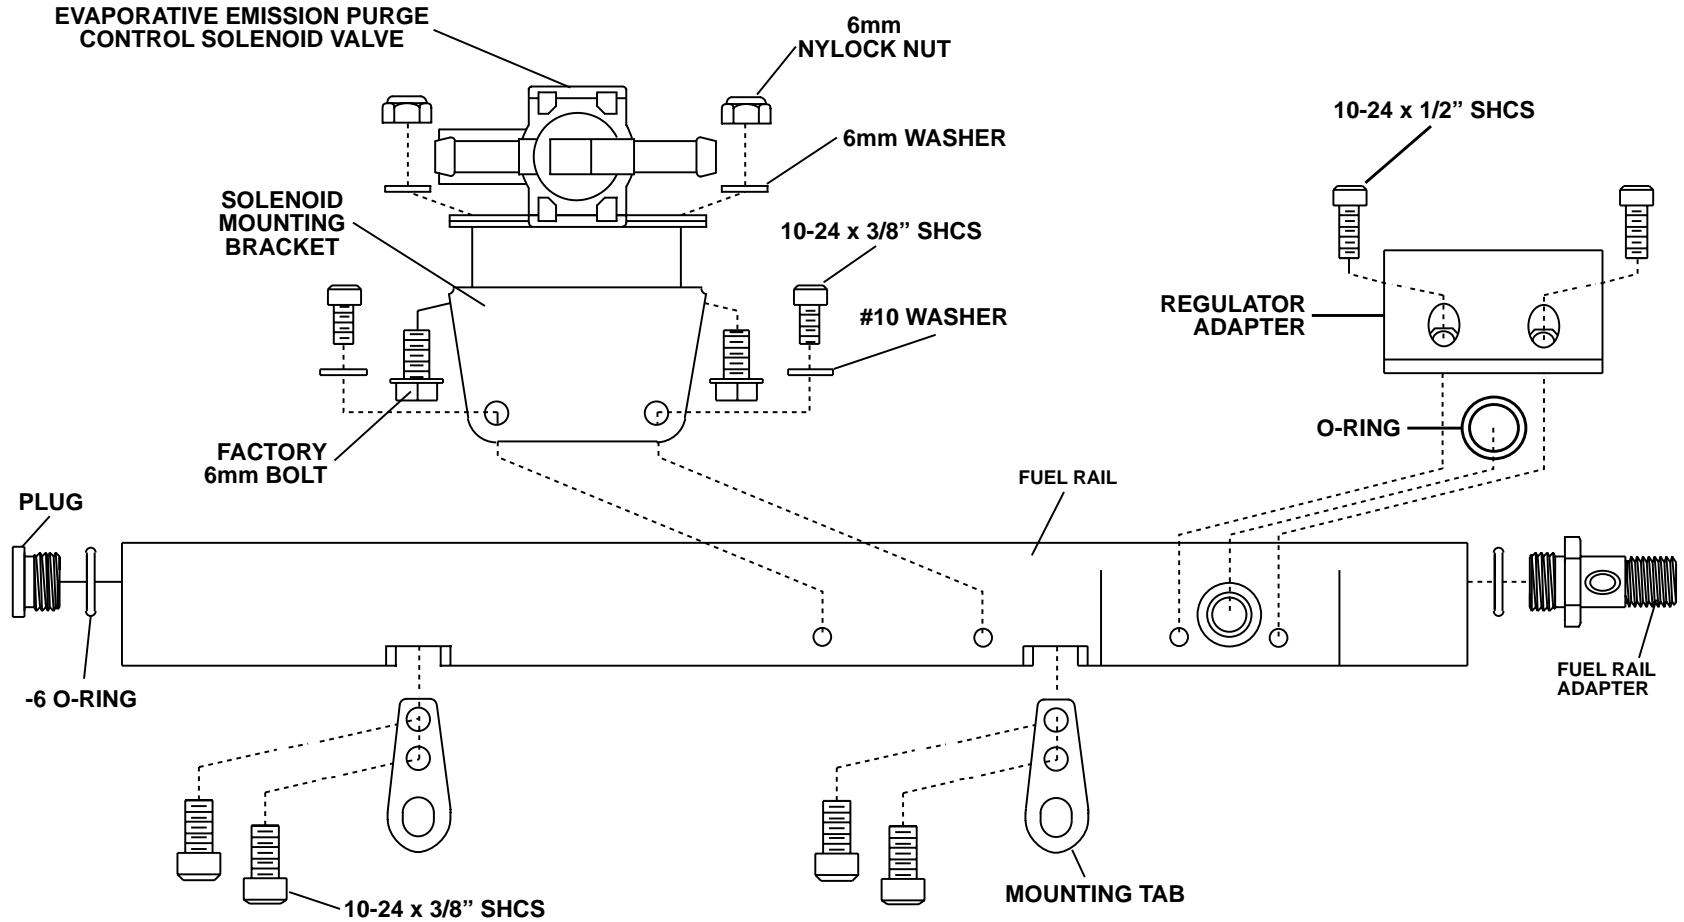

Figure 1
7. Following the diagram (see *Figure 1*), install the plug and fuel line/rail adapter onto the fuel rail as shown. *Note that the smallest of the three O-rings is to be used for the regulator adapter.* Use a small amount of clean engine oil to lubricate the O-rings before installation.